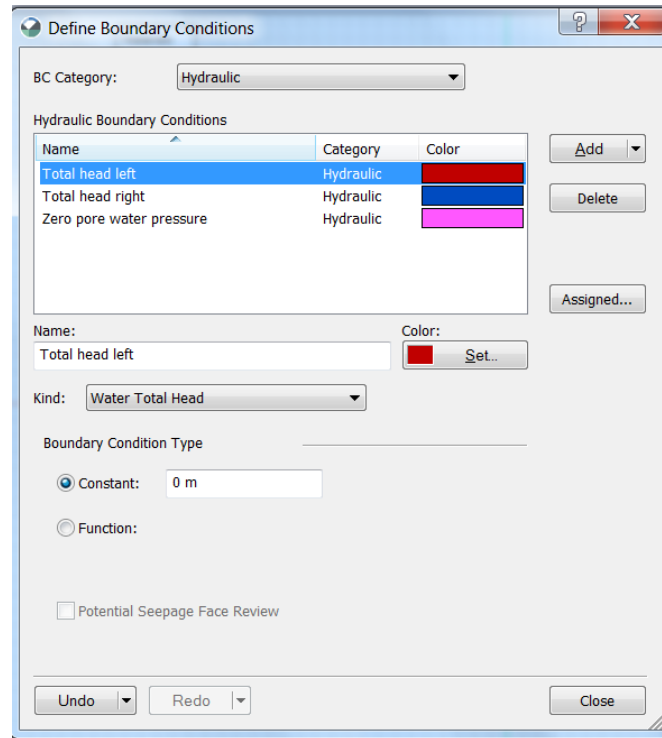

Figure 9: Define boundary conditions window.
Create the boundary conditions (BC). To do so click: “Define→Boundary Conditions” and follow the suggestions given in Figure 9.